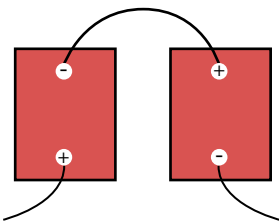

FIGURE 1:
**To increase voltage, connect the batteries in series as shown in Figure 1.**